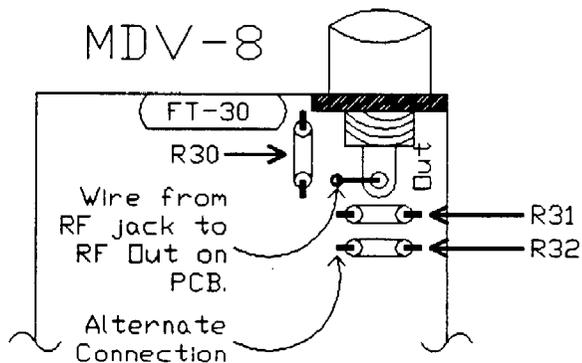

Figure 3
- MDV-8 Junction of R31 and R32 (which is toward the edge of the RF case, see Figure 3).